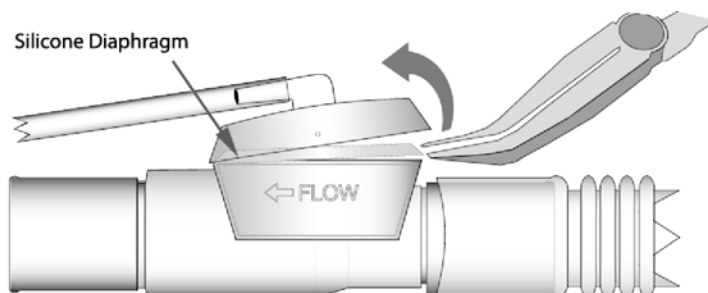

Figure D-1 Removing Silicon Diaphragm -- Pediatric/Adult Patient Circuit
1. Using a hemostat or a tongue blade, carefully open the exhalation valve as we show in Figure D-1. Remove the top cover first, and then remove the silicon diaphragm. Place the silicon diaphragm in a clean area on disposable circuits only. Do not attempt to the following procedure on a reusable circuit.